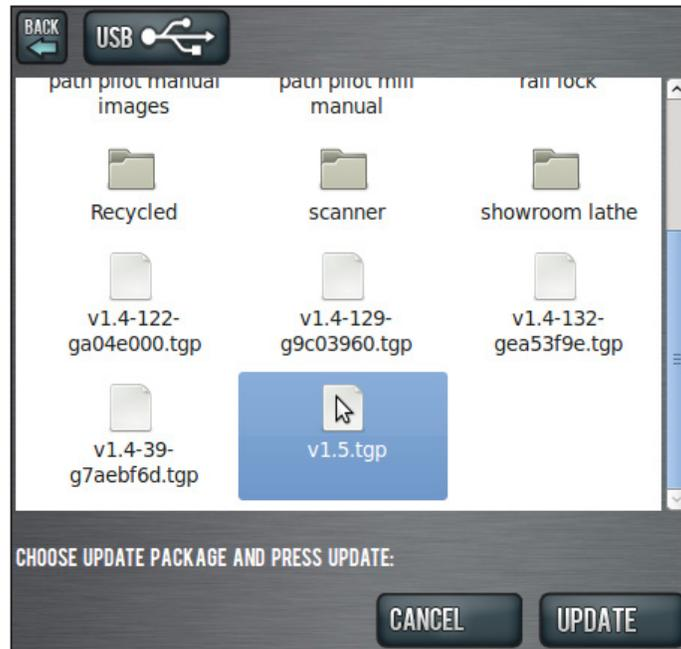

Figure 5
5. Navigate to the PathPilot update file (vX.X) on the USB drive; click *Update* (see **Figure 5**).